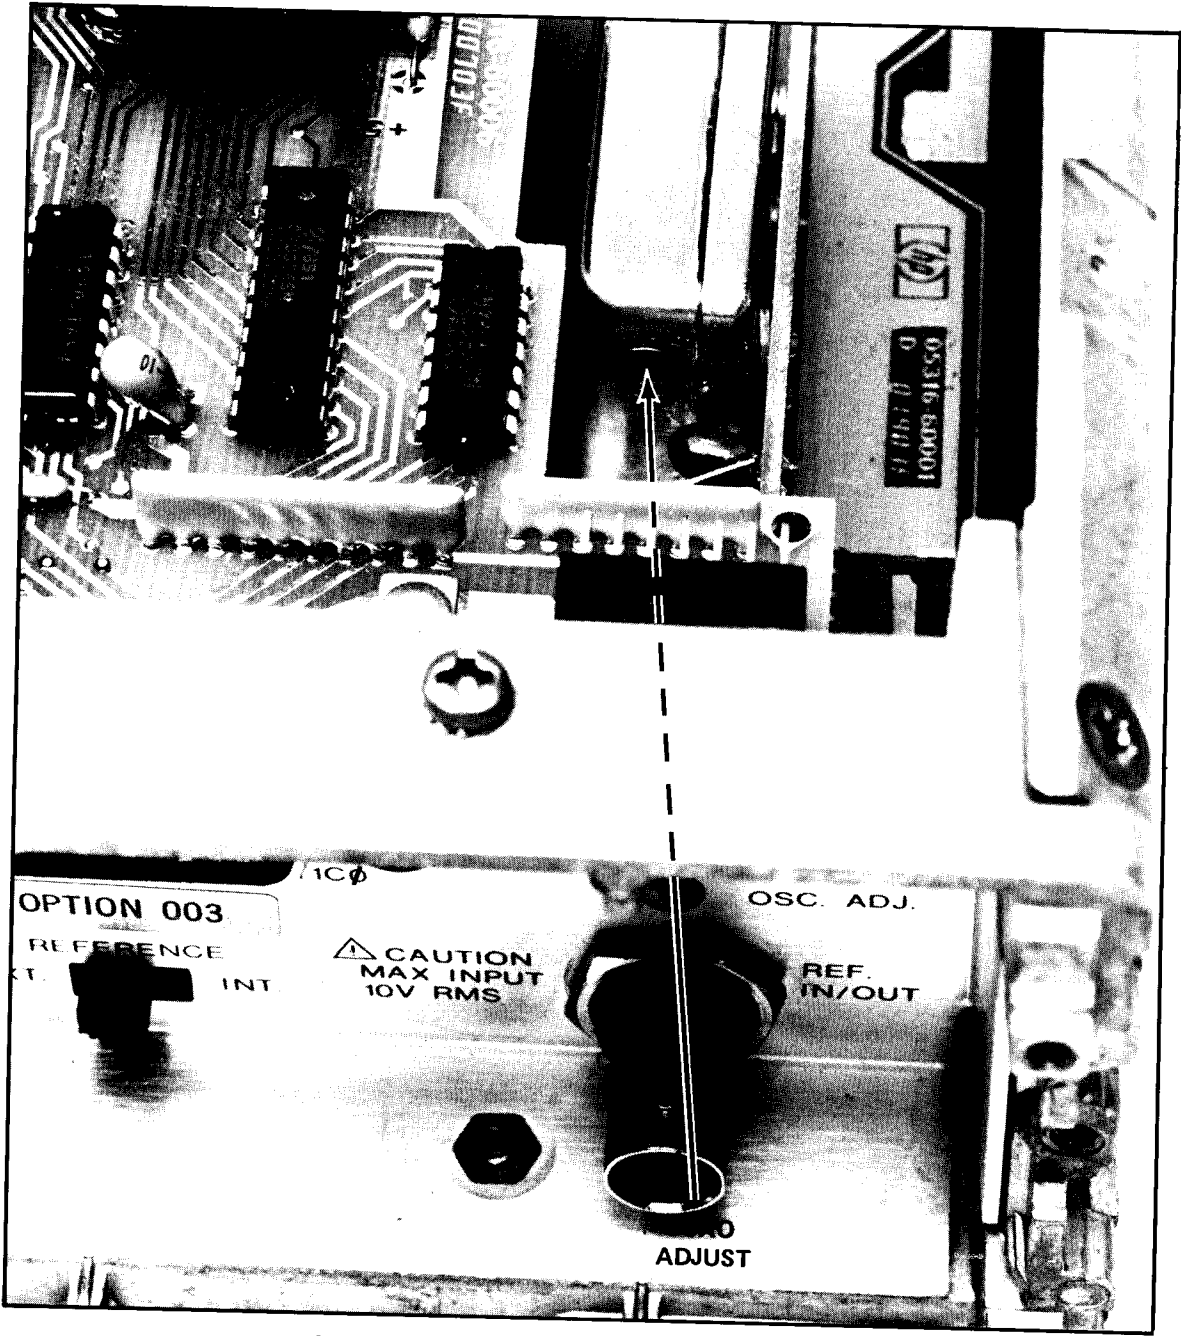

Figure 5-7. TCXO Option 001 Adjustment Location
- d. Adjust the TCXO frequency for minimum sideways movement of the 10 MHz signal with ADJ on the TCXO. See Figure 5-7.